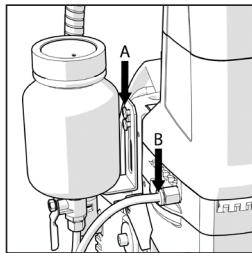

Fig. 3
- The coolant system should be fastened to the machine using the ø 6 mm socket headed screw inserted into the threaded hole located at the top left hand side of the machines carriage. (**Fig. 3 a**)